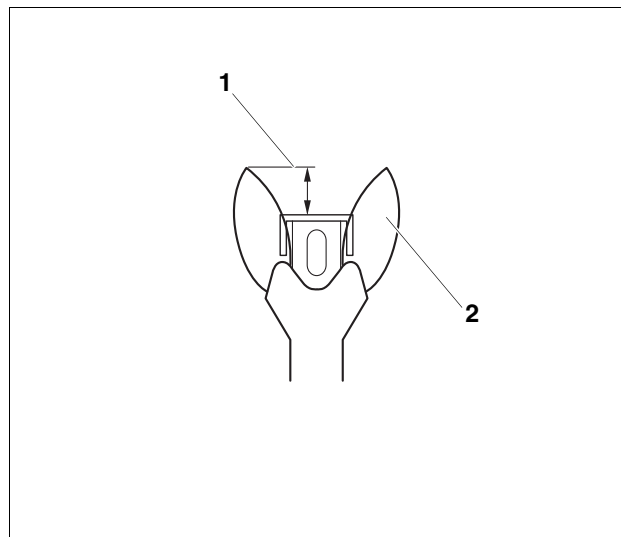
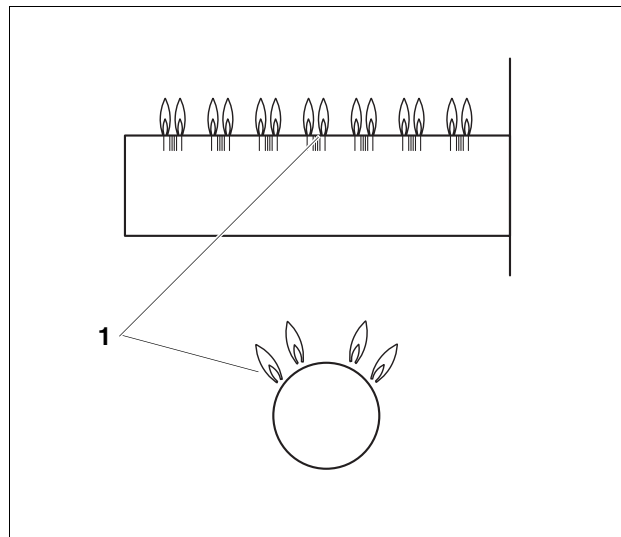

Fig. 10 Correct pilot flame setting
Fig. 11 Main burner
21. Test the safety switch by closing the gas valve. The main burner flame (→ Fig. 11) and the pilot flame (→ Fig. 10) are extinguished. After six (6) seconds at the most the main gas solenoid valve on the gas valve must close with an audible noise.